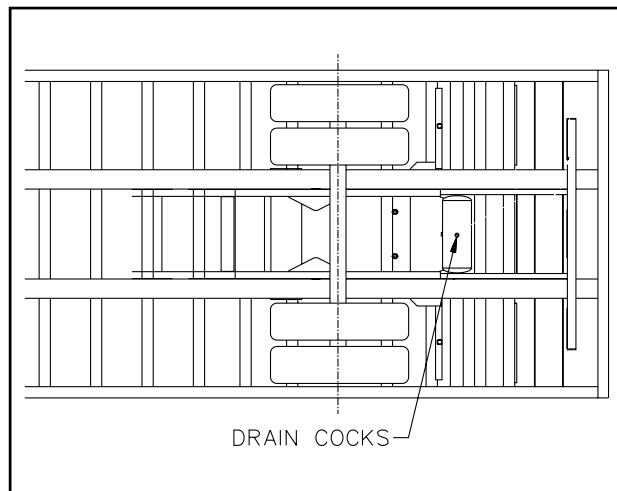

Figure 4-10 Drain Cock Locations
- d. Drain air reservoir daily. A drain cock on the bottom of each air reservoir vents the tank to drain collected water and oil. If held open, air pressure in the tanks is relieved, causing the emergency or parking brakes to be applied (See Figure 4-10).